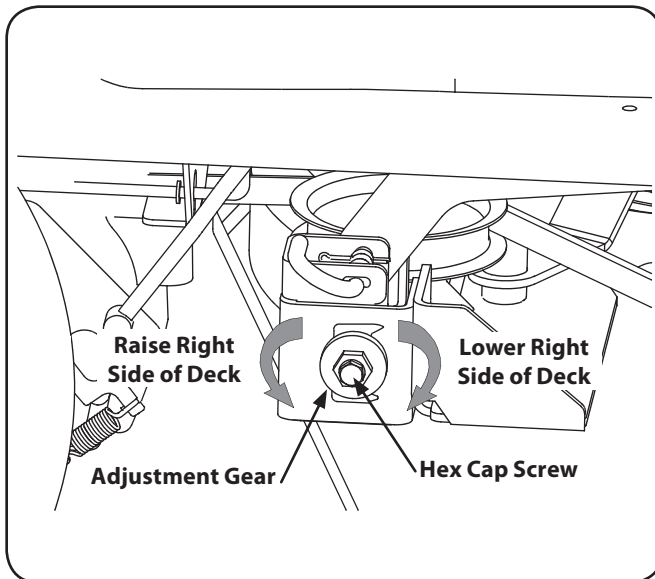

Figure 6-6
5. Loosen, but do not remove, the hex cap screw on the right deck hanger bracket. Refer to Fig. 6-6.
6. Level the deck by using a wrench to turn the adjustment gear (found immediately behind the hex cap screw just loosened) clockwise to lower the right side of the deck, or counterclockwise to raise the right side of the deck. See Fig. 6-6.